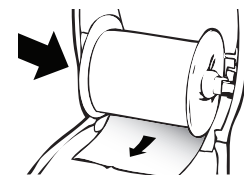

Figure 3
- 6 Insert the label spool into the slot in the printer cover with the labels extending from underneath the roll. See Figure 3.